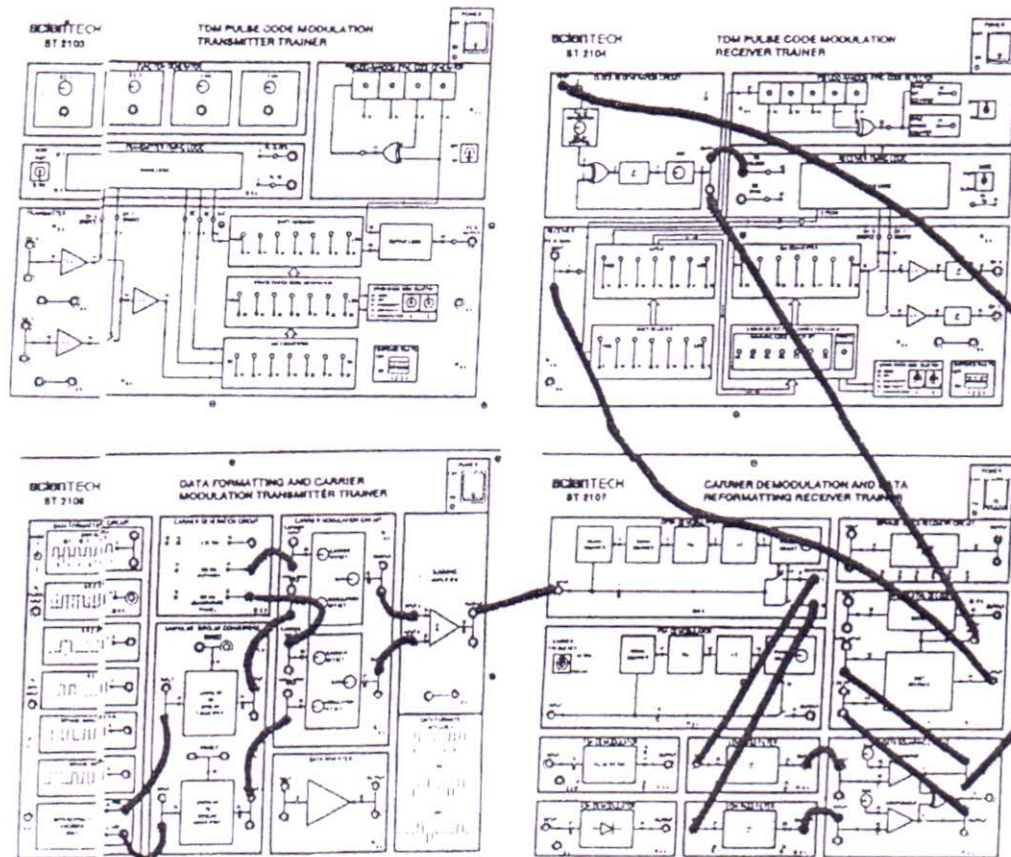

Fig. 44
14. Make the additional connections as shown in fig. 44 as shown in following steps.
- v) 960KHz (I) output (tp17) to modulator 1 carrier input (tp26).
- vi) 960KHz (Q) output (tp18) to modulator 2 carrier input (tp29)